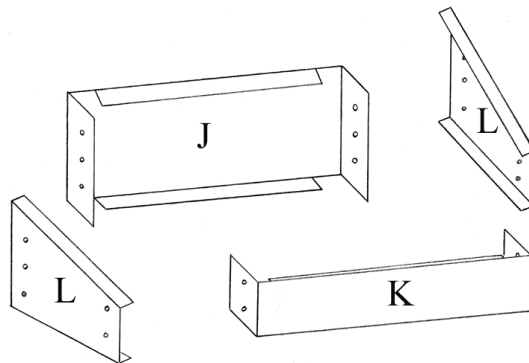

Figure 5
(iii) Position the two end panels (L) (left & right hand) between the back & front corner legs (A & B) on the INSIDE of the turned ends of the back & front panels (J & K) – as shown in figure 5.